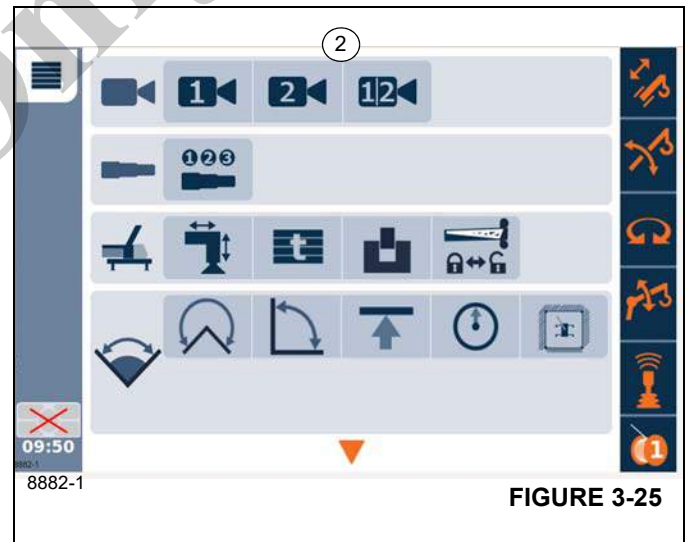

FIGURE 3-25
After pressing a button on the CCS control panel, the main menu (2), (Figure 3-25) appears.